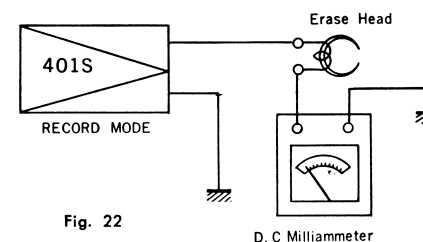

Fig. 22
Measuring Circuit: Refer to Fig. 22.
- Disconnect wiring from ground side of Erase Head, and insert DC Milliammeter between Wire and Terminal as shown in Fig. 22.